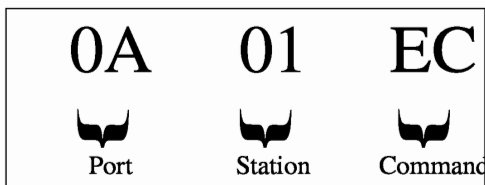

Figure 3-40 Example 2 of Remote Variable Address
**Note 2:** Example in figure 3-40 shows an 'EX Control' command issued to an EX2000 device.